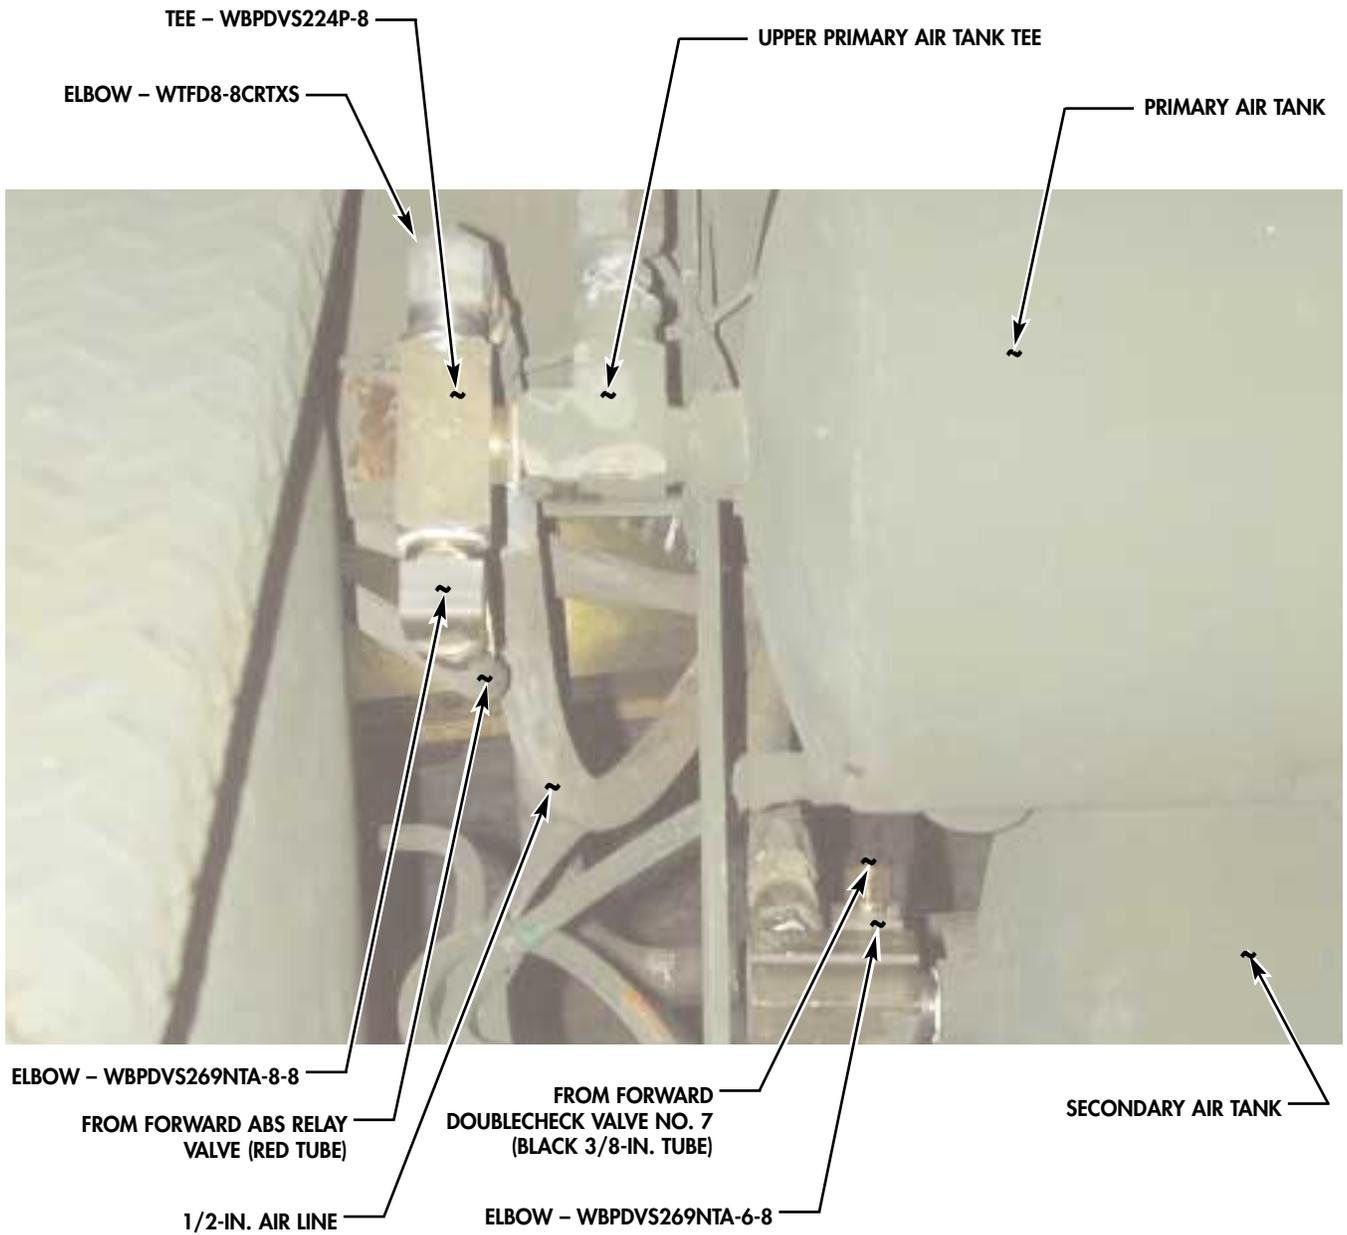
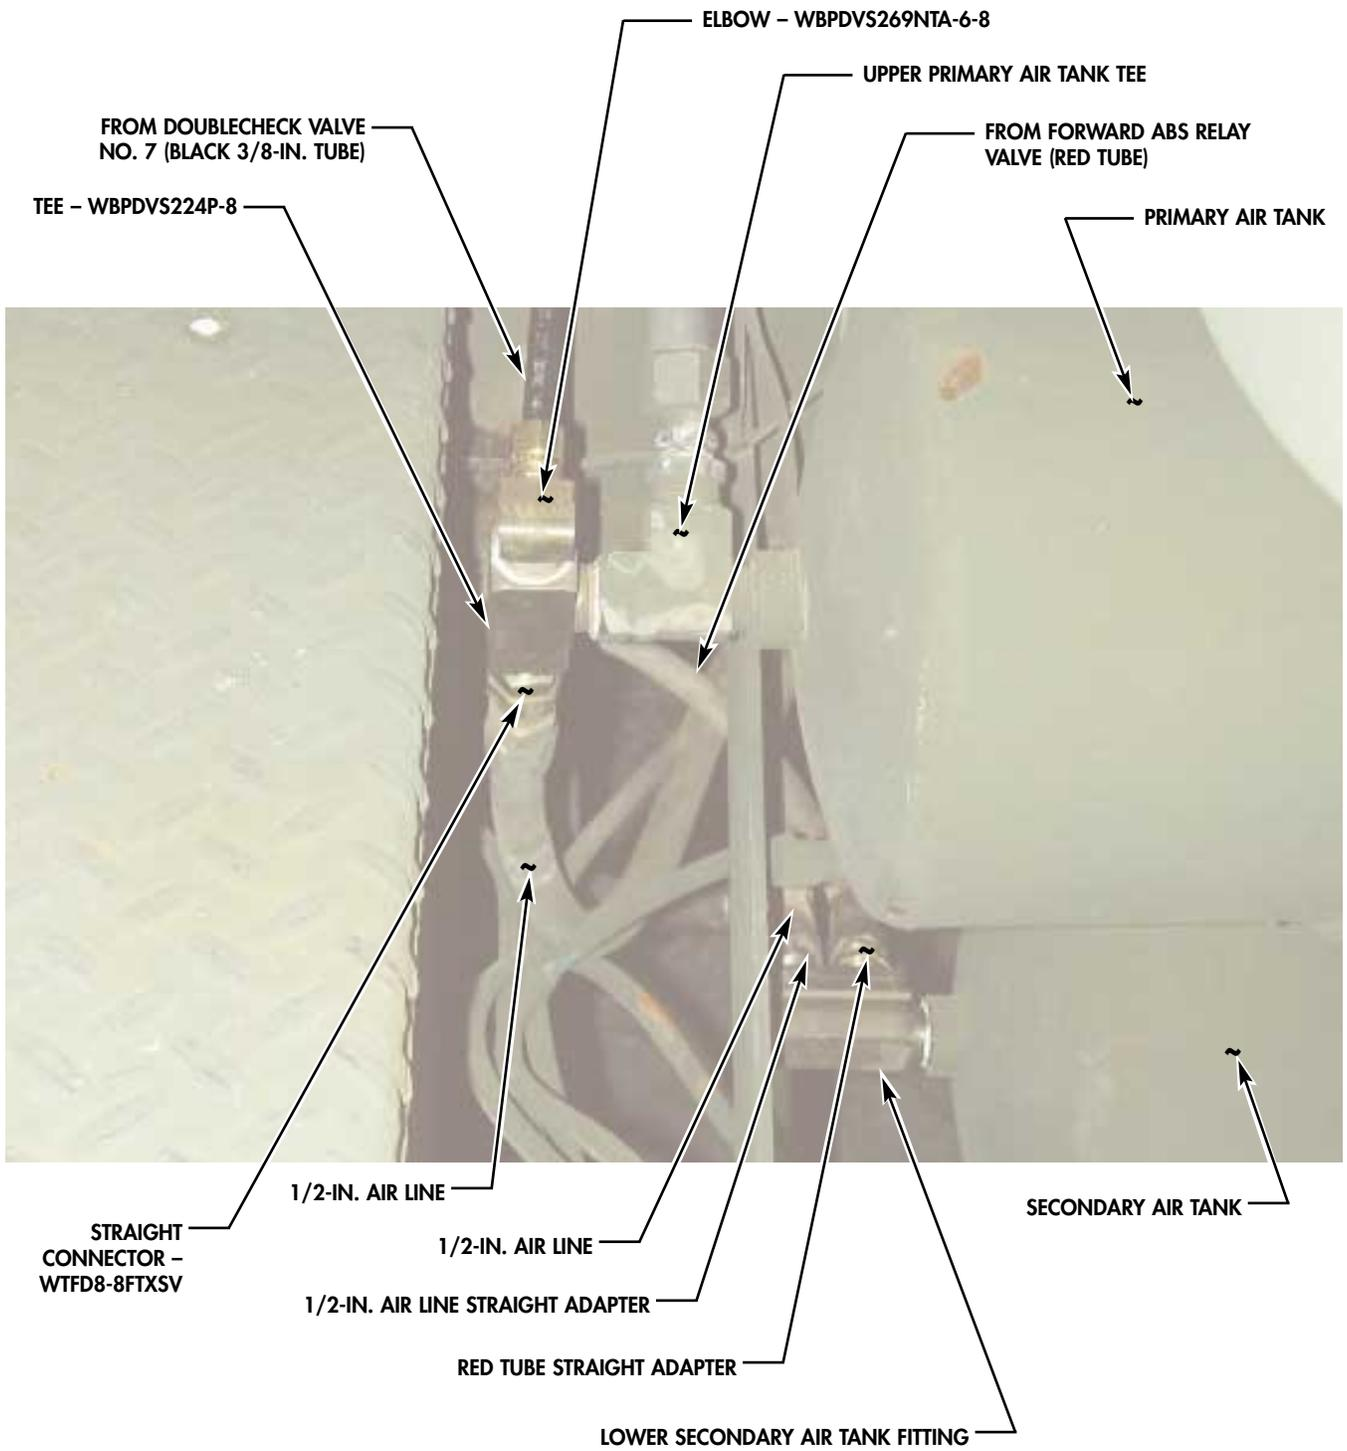

FIGURE 1. CORRECT (VIEWED FROM TOP)
FIGURE 4. INCORRECT (VIEWED FROM TOP)
- For all M939 basic and A1 models (except wrecker and XLWB cargo trucks), refer to figure 1 for correct installation on vehicle.
(3) If red and black tubes are in correct locations (figures 1, 2, and 3), no further action is required. If red and black tubes are not in correct position (figure 4), proceed to disassembly.
- b. Disconnect red tube and remove red tube straight adapter from lower secondary air tank fitting (figure 4). Discard adapter.
- c. Disconnect 1/2-in. air line and remove 1/2-in. air line straight adapter from lower secondary air tank fitting (figure 4). Retain adapter.
- d. Disconnect black 3/8-in. tube and 1/2-in. air line from primary air tank tee (figure 4).
- e. Remove tee WBPDV224P-8 with attached fittings from upper primary air tank tee. Remove elbow WBPDV269NTA-6-8 and straight connector WTFD8-8FTXS from tee (figure 4). Retain elbow, connector, and tee.
a. Install elbow WBPDVS269NTA-8-8, elbow WTFD8-8CRTXS, and tee WBPDVS224P-8 onto upper primary air tank tee as shown in figure 1.
b. Connect 1/2-in. air line to elbow WTFD8-8CRTXS and connect red tube to elbow WBPDVS269NTA-8-8 as shown in figure 1.